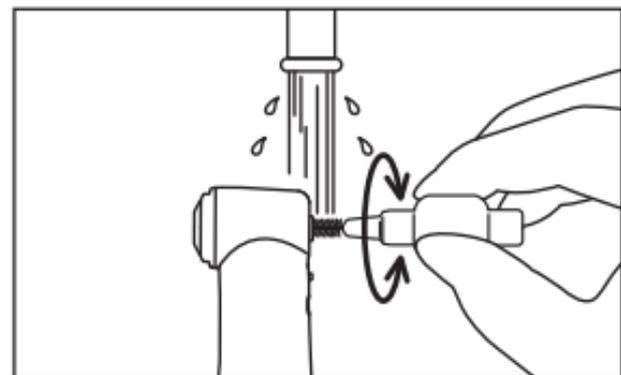

Fig. 17
- 2) Clean inside the bur/drill insertion hole for 15 seconds or more, using an interdental brush (wire thickness 0.7mm) that conforms to size 4 in ISO 16409. (Fig. 17)